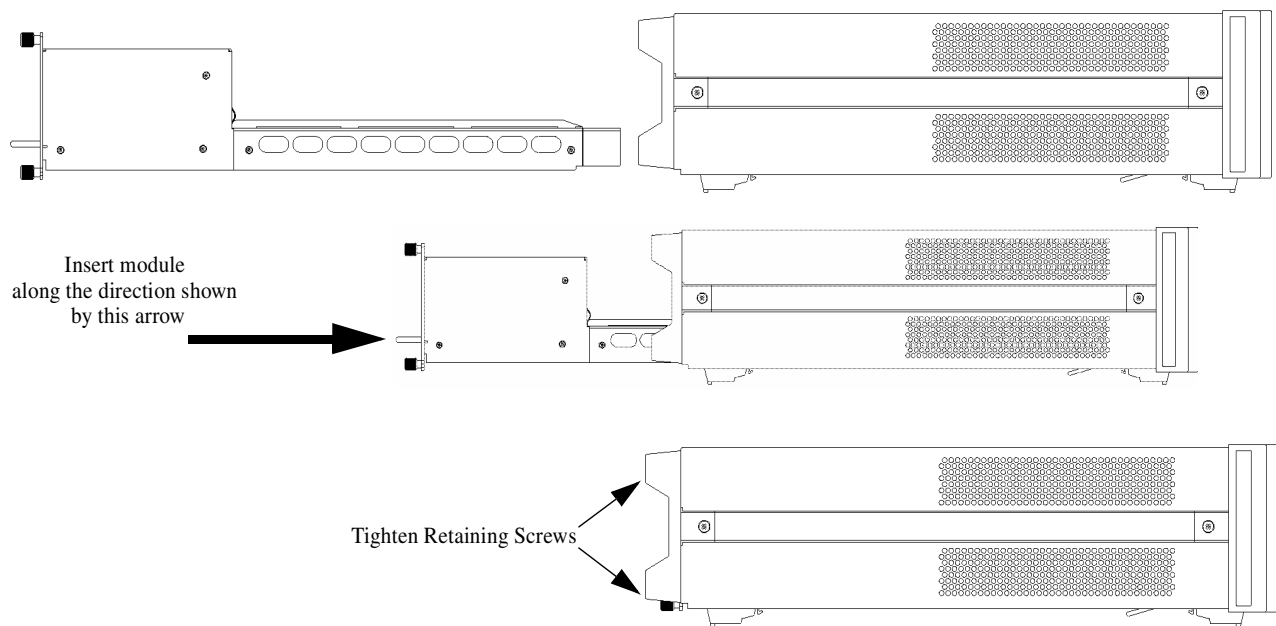

Figure 192 Fitting a Back-Loadable Module
- 1** Position the module at the rear of the instrument as shown in Figure 192.
If you insert the module at an angle or vertically, you may damage the instrument and the module. You should insert the module along the direction shown by the arrow in Figure 192.